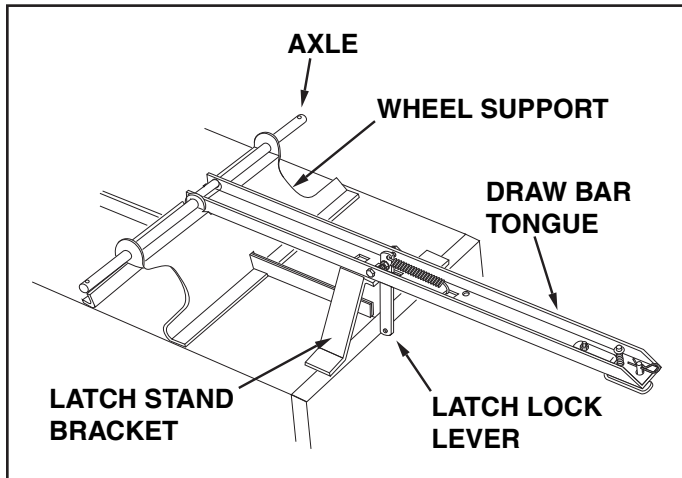

FIGURE 1
3. Lower the cart to rest upside down on its top flanges, so that the wheel support is facing up. See figure 1.
4. Lay the drawbar tongue (open side facing up) onto the wheel support and the latch stand bracket. Assemble the axle through the wheel support and the tongue. See figure 1.
5. Lock the drawbar tongue to the latch stand bracket using the latch lock lever. See figure 1.